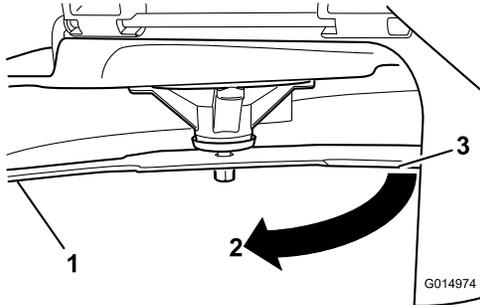

Figure 56
3. Second measured distance between blade and surface (B)
4. Rotate the same blade 180 degrees so that the opposing cutting edge is now in the same position (Figure 56).